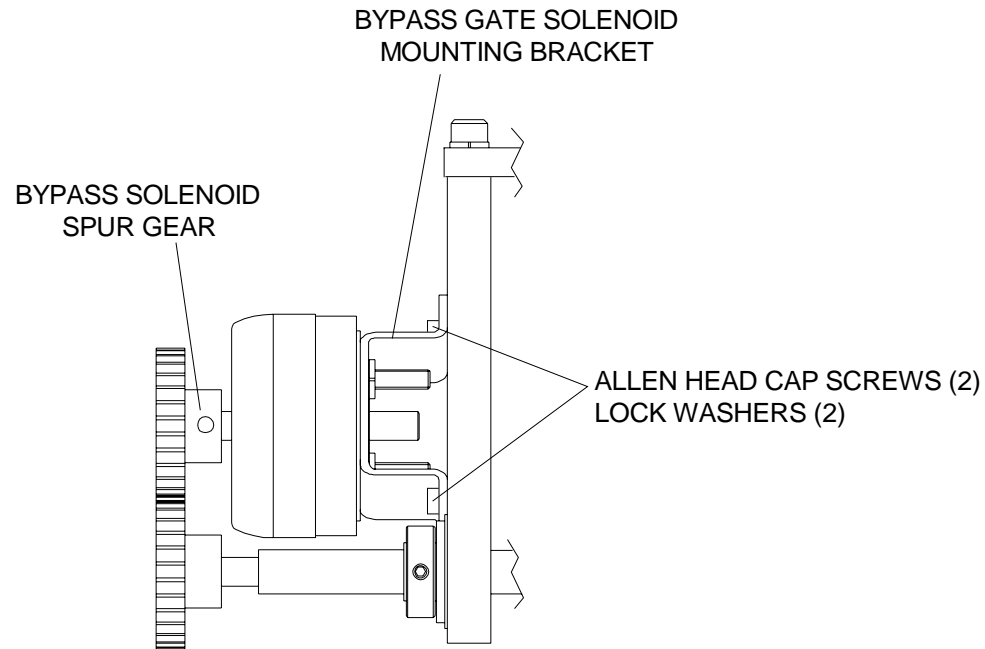

Figure 1.
3. Loosen the Allen screw in the Bypass Gate Solenoid Spur Gear and remove the Bypass Gate Solenoid Spur Gear (Figure 1).
4. Remove the 2 Allen Head Cap screws and 2 Lock Washers holding the Bypass Gate Solenoid Mounting Bracket (Figure 1).
5. Remove the Bypass Gate Solenoid from the Bypass Gate Solenoid Mounting Bracket (Figure 1), 2 Hex Nuts and 2 Lock Washers.